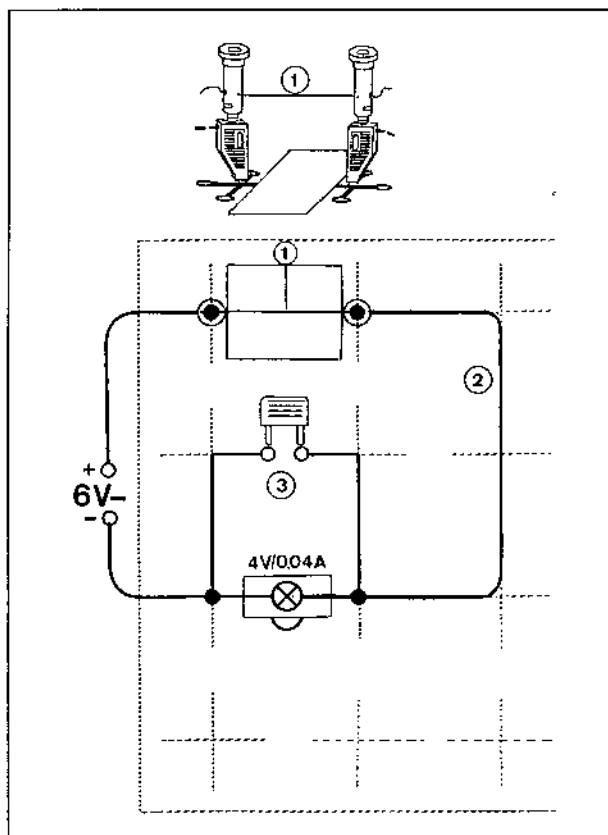

Fig. 1 Experiment setup: Model of a fuse
1. Construct the circuit shown in fig. 1. At position (1) is fixed a 5 cm long piece of conductor, consisting of uninsulated iron wire (0.2 mm ϕ). This is fixed in place by cable connectors and clamping plugs, as shown in the neighbouring illustration.